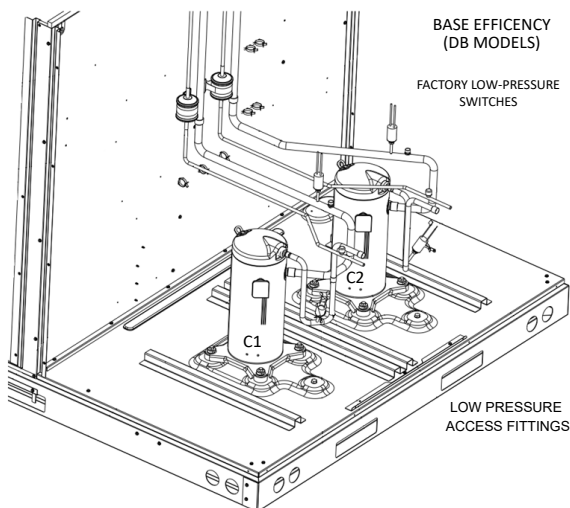

FIGURE 18
13. Locate the low pressure access fittings next to the factory low pressure switches (See Figure 18). Remove the plastic caps, and install the 3rd and 4th Swivel-Tees provided in the kit onto these fittings. Torque to 96 ± 5 in-lbs. Use a backup wrench to prevent twisting off the fitting and possible leaks.